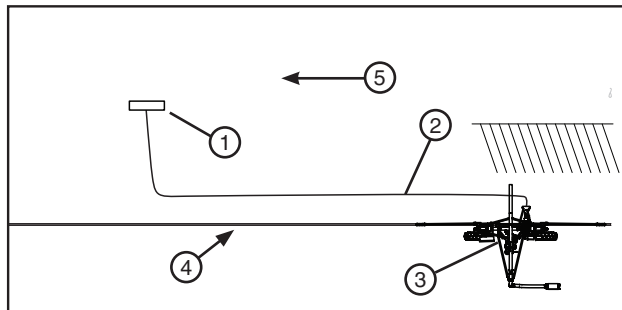

Figure 76-1 1. Power Pedestal
- (b) Position the electric cord between the cart and power pedestal so that it does not interfere with the furrow guidance arms if applicable. See figure 76-1.